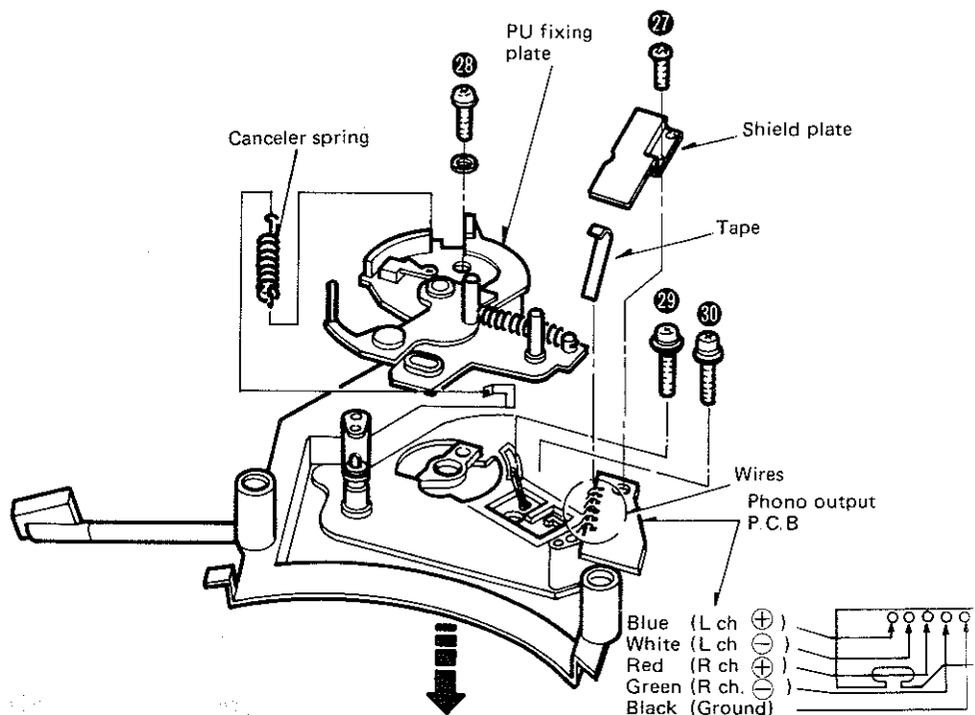

Fig. 8
4. Remove the shield plate setscrew (Fig. 8 : ㉓) and remove the shield plate.
6. Remove the PU fixing plate setscrew (Fig. 8 : ㉔) and canceler spring.
7. Remove the 2 tonearm setscrews (Fig. 8 : ㉕, ㉖), then the tonearm can be removed in the direction of the arrow.